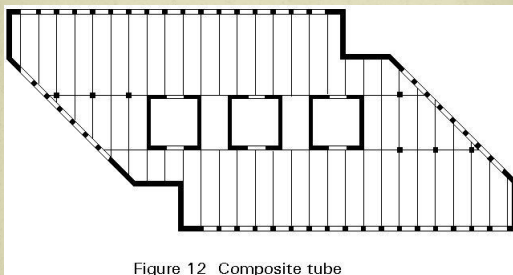

Figure 12 Composite tube
- ❖ Structural steel floor framing and other interior steel columns complete the system of the first Canadian Centre in Calgary, Canada, as shown in Figure 12.